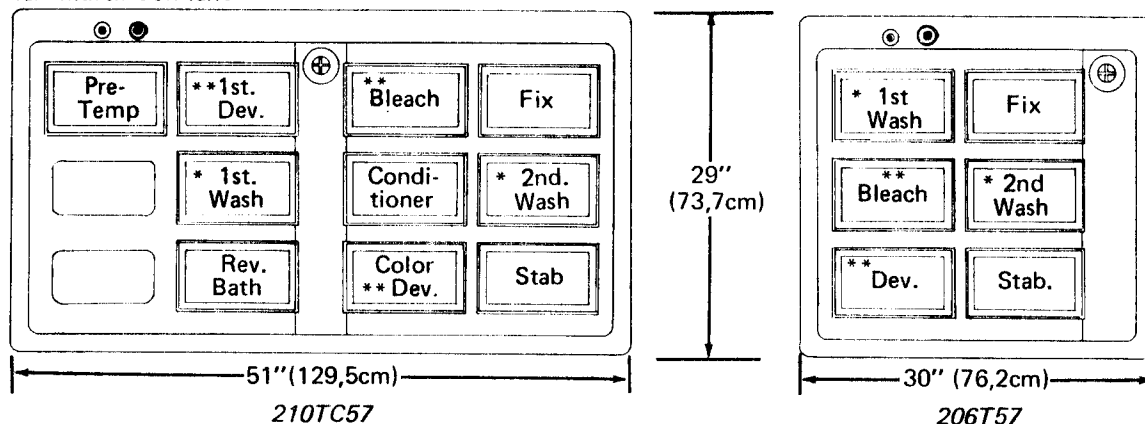

FIGURE 1 - DIMENSIONS & TANK CONFIGURATIONS
1. The 1-gallon (3,8 L.) capacity tanks accept 8 hangers up to 5 x 7 size. An optional rack for 110, 120 and 135 film reels is available. See Figure 1 for "TANK CONFIGURATIONS".